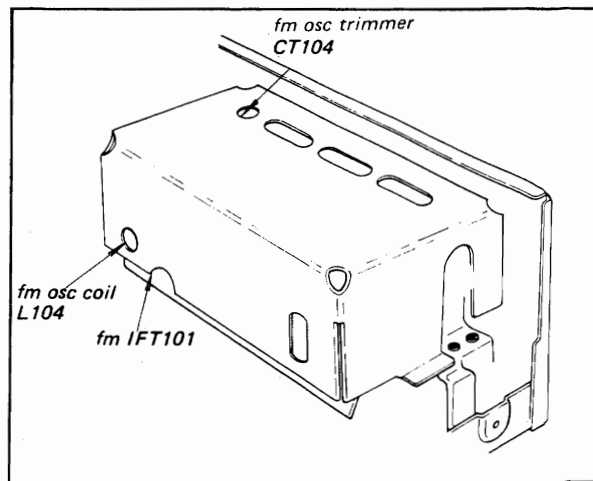

*Fig. 3-2. Interruption of afc circuit*
3. Short the test point of R226 (AFC circuit) on the a-m front-end/i-f amp/MPX board to ground as shown in Fig. 3-2.
1. Short the test point of R226 (AFC circuit) to ground as shown in Fig. 3-2.
2. Short the test point of R226 (AFC circuit) on the a-m front-end/i-f amp/MPX board to ground as shown in Fig. 3-2.